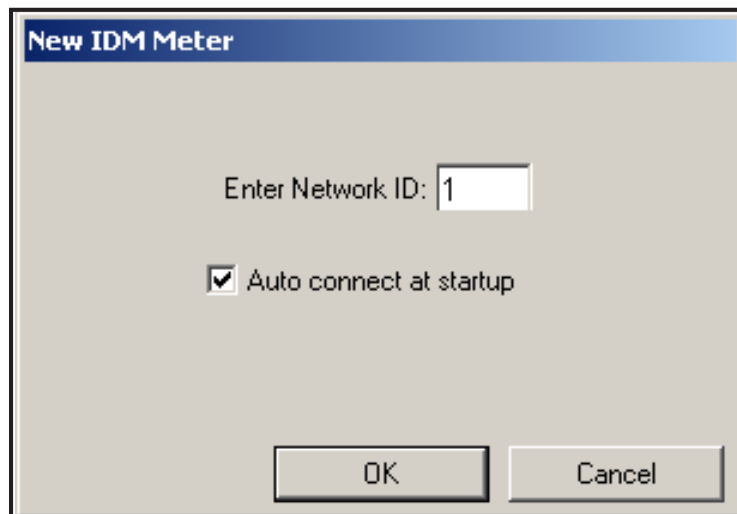

Figure 36: New IDM Meter Screen
4. The *New IDM Meter* screen (shown in Figure 36) opens. Enter the Network ID number for the meter, and click [OK].